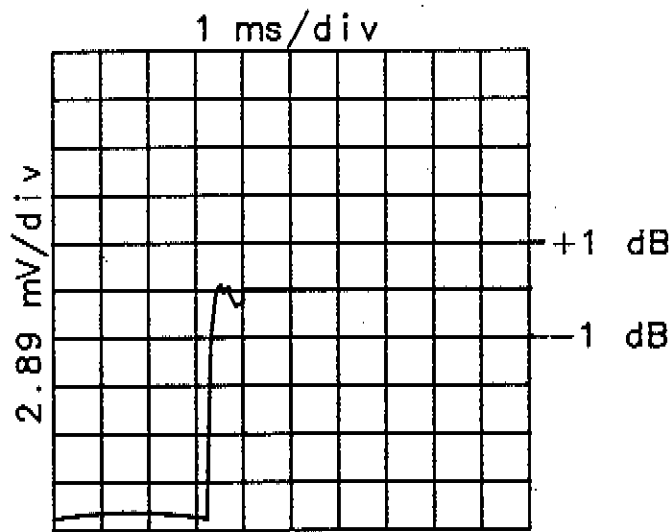

Figure 4-19. Level Switching Time Measurement Waveform
11. Rerun the program entered in step 9 by executing the command "RUN 100." Press the digitizer key on the oscilloscope when instructed to by the program. The oscilloscope should digitize the switching waveform with greater detail. The waveform should now look like that shown in Figure 4-19.
12. Measure the level switching time by observing the digitized signal on the oscilloscope display. The external trigger is the reference for determining switching speed. The switching time is measured from the display's left graticule to the last point that the signal is more than ± 1 division from the middle horizontal graticule. Refer to Figure 4-19. Record the level switching time.